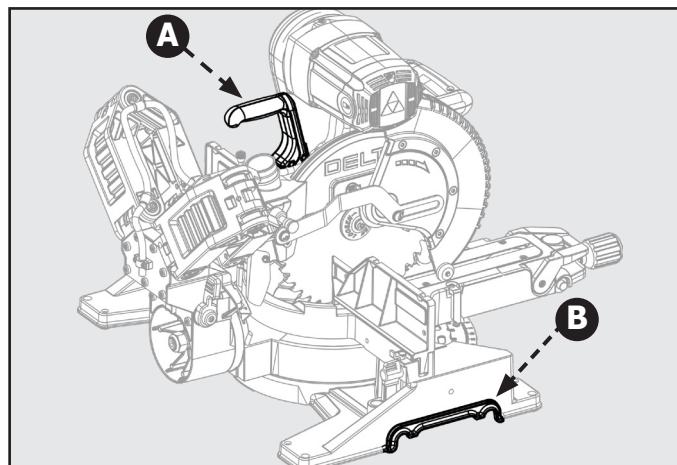

Figure 5
For transportation use the included carry handle (A) as shown in Fig. 5 You may also lift using the cast-in handle cut-outs (B) on both sides of the saw base as shown in Fig. 5
1. Insert one of the support extensions (F) to the underside of the base at the cast-in handle cut-outs (B) shown in Figure 5.
2. Make sure support extension (F) is flush with the base and inserted into the rounded slots of the cut-outs (B). The rivets (G) are used to ensure the support extension does not slide out of the base during use. Ensure these rivets are positioned on the inside of the base.
3. Place the extension clamp (E) onto the support extension and the screw that is pre-attached to the base.
4. Once the extension clamp (E) is in place, screw the M8 hex nut provided (D) onto the screw.
5. Tighten the nut (D) with an M8 hex wrench to fully secure the support extension.